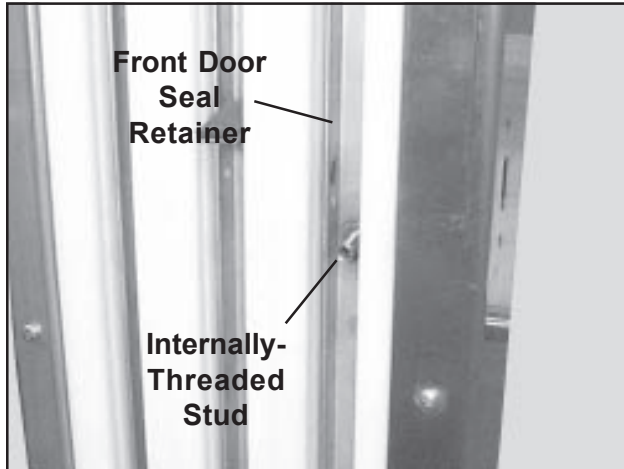

Figure 71. Stud for Spring
5. Lift the old spring off the internally-threaded stud (Figure 71).